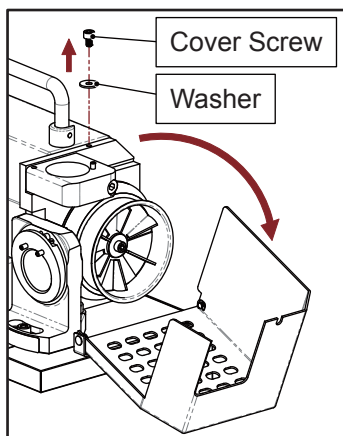

Fig. 6-2
- ③ Loosen the screw from the grinding wheel cover to open the cover. (Fig. 6-2)